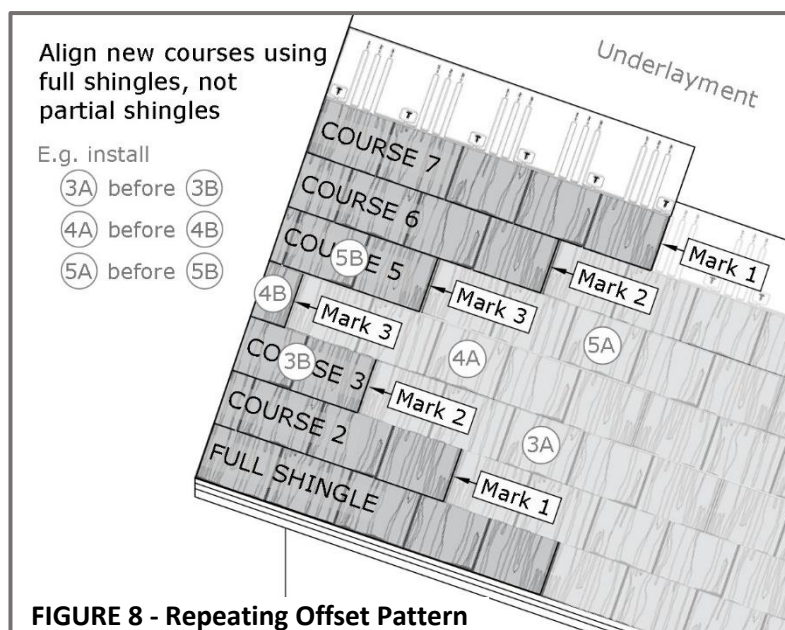

FIGURE 8 - Repeating Offset Pattern
- Establish the overall diagonal method or stair-step effect always having a 1-tab setback. See **Figure 8**.